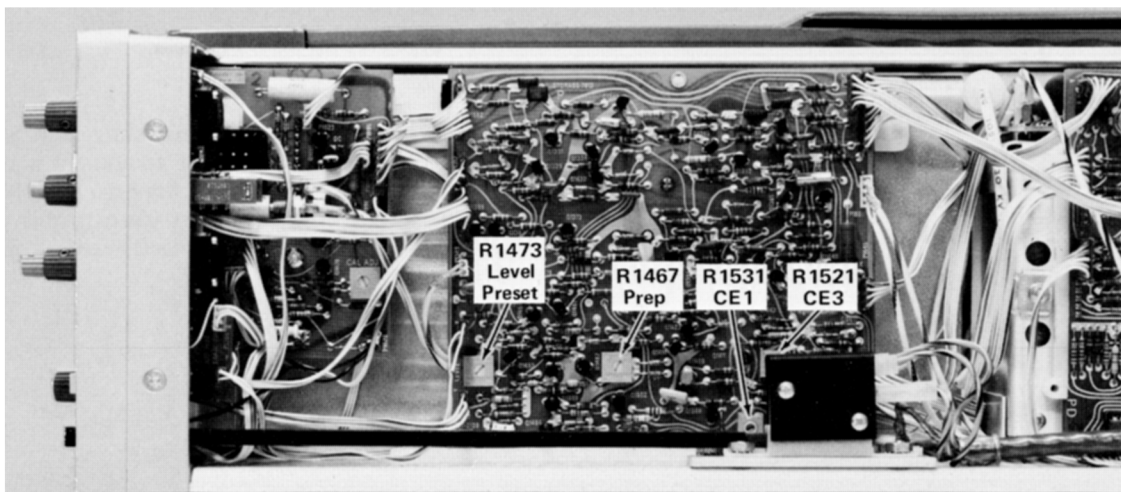

Fig. 2-9. Location of adjustment on storage board.
i. ADJUST—Level Preset (R1473) if necessary so screen turns dark after erase cycle (see Fig. 2-9 for location of adjustments on storage board). Turn STORED INTENSITY control clockwise. Screen should turn bright.